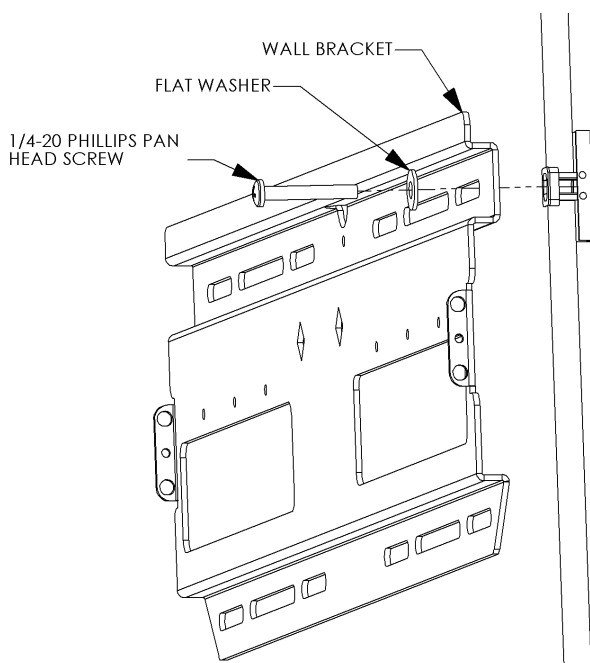

Figure 8.
7. Using the 1/4-20 Phillips head screws (110) and flat washers (50), secure the mount to the wall (see Figure 8).